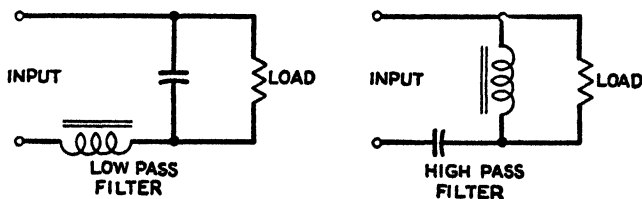

FIG. 4-17.—Filter networks.
*Ans.* See Fig. 4-17. The high-pass filter is also shown, for comparison.